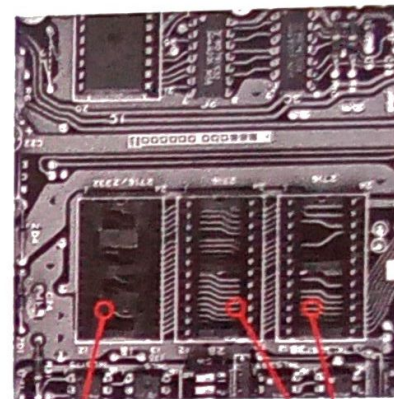

Figure 3.
Step 4. Most Epson MX printers (but not all) will have a thin (1/16") plastic pin guide clipped to the top of each socket. This guide must be removed from sockets 2B and 3B before the Dots-Perfect board can be plugged in. Compare your sockets to those in Figure 3. If you do have pin guides on your sockets, simply pull them off with your fingers.